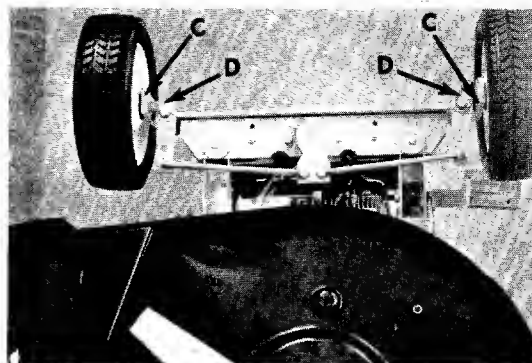

FIGURE 14. LUBRICATION
- b. **Front Wheel Bearings.** Remove the front axle bolts and coat the axle with a multi-purpose automotive type grease and reassemble once a season. See figure 14.
- c. **King Pins.** Lubricate the king pins after every 25 hours of operation with SAE 30 oil. Wipe up excessive oil with a rag. See figure 14.